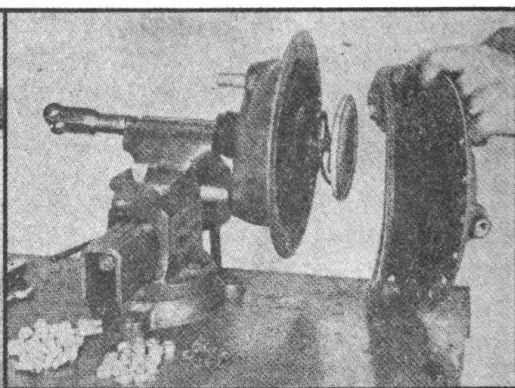

FIGURE 29. REPLACING BRAKE
c. Disassembly.—(1) Remove the brake chamber from the trailer by removing the two chamber nuts which hold it to the mounting bracket, disconnect the tubing assembly and pull the clevis pin at the brake lever.
(2) Place the chamber in a vise and draw a nail or other sharp object across the chamber edge to mark it for reassembly.
(3) Remove the bolts, replace the diaphragm and tighten bolts (Figure 29).